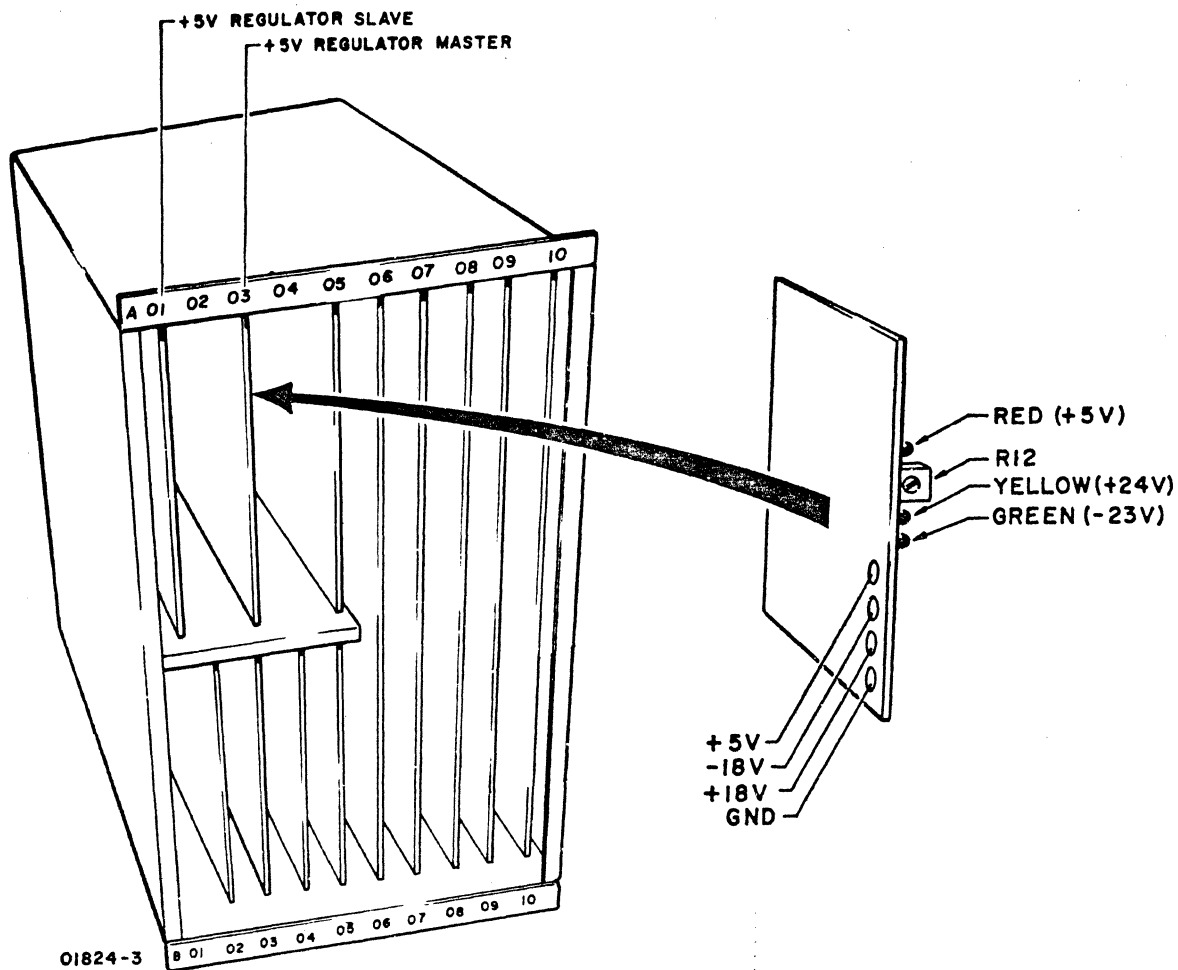

Figure CRT33. +5-VDC Regulator Board Test Points
- 6) Apply voltmeter black (-) lead to ground (GND) test point on A03 board (figure CRT33).
- 7) Apply red (+) lead to +5-vdc test point (figure CRT33).
- 8) Meter should indicate +5 vdc. If voltage is other than +5, adjust to +5 by turning adjustment screw of potentiometer R12 (figure CRT33). If unable to adjust, replace A03 card.
- 10) Apply red (+) lead to +18-vdc test point (figure CRT33) and black (-) lead to GND (figure CRT33).
- 14) Apply black (-) lead to -18-vdc test point and red (+) lead to GND (figure CRT33).